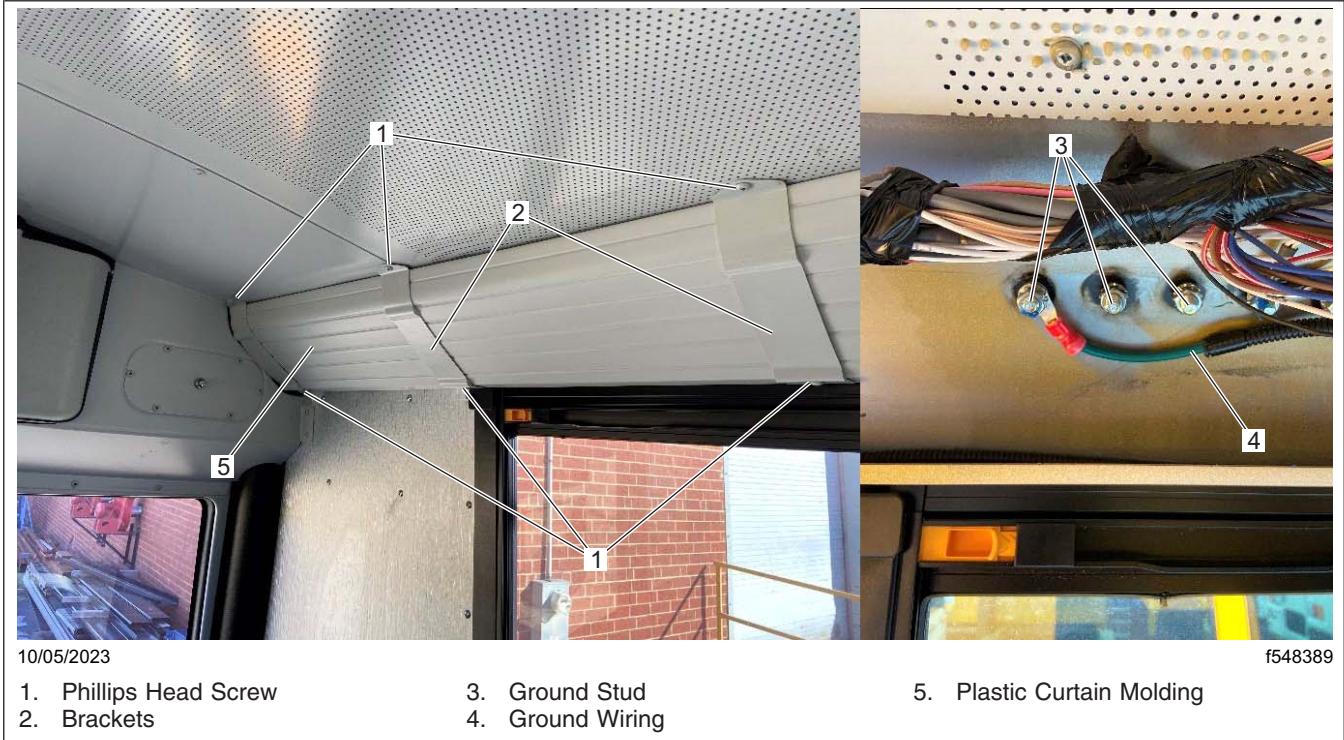

Fig. 2, Ground Stud Referencing Rear A/C Evaporator
9. Remove the Phillips head screws from the brackets that hold the plastic curtain molding. This allows to pull the curtain molding away enough to see the metal header with the ground studs. See Fig. 2.